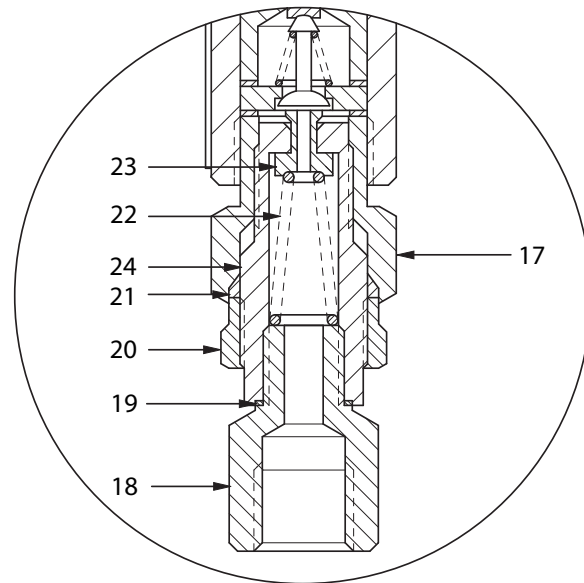

Figure 5 Single-Shot Adjustment Components
3. Loosen Locknut (20) 1/8 turn. See **Figure 5**.
- Do not allow the Locknut to completely disengage Single-Shot Adjuster (24).